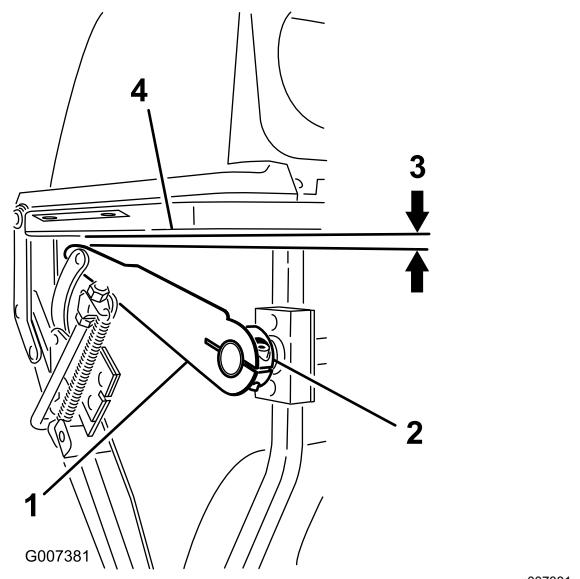

Figure 52
- 5. To make the distances equal, loosen the Allen-head bolt on the hub of the right bellcrank (Figure 52).